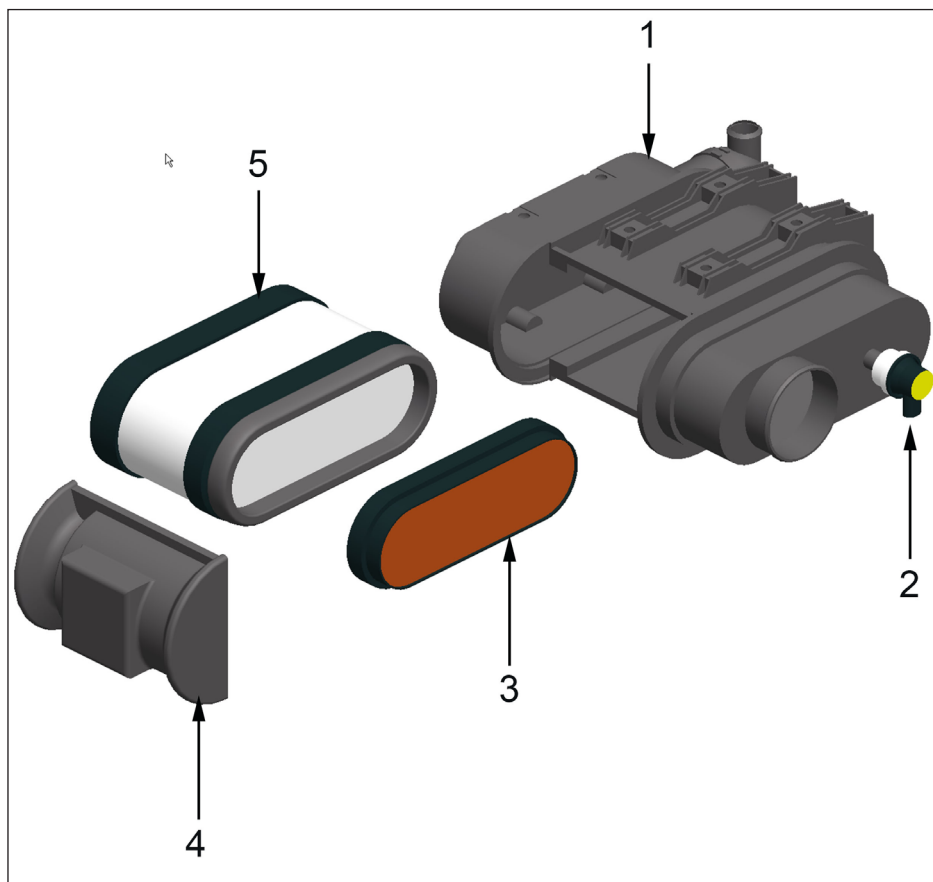

Figure 6.17 - Engine Air Filter
4. Remove cover. (Item 4), Ref: Figure 6.17.
8. Reset the air filter button (item 2).